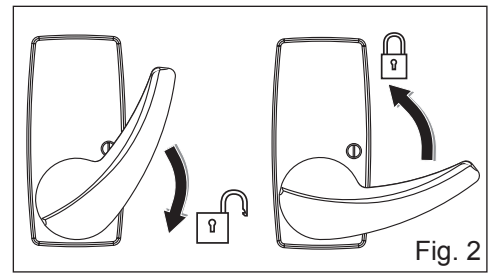

Fig. 2
- if there is an electromechanical ELOK2 lock, release the door wing (fig. 2);